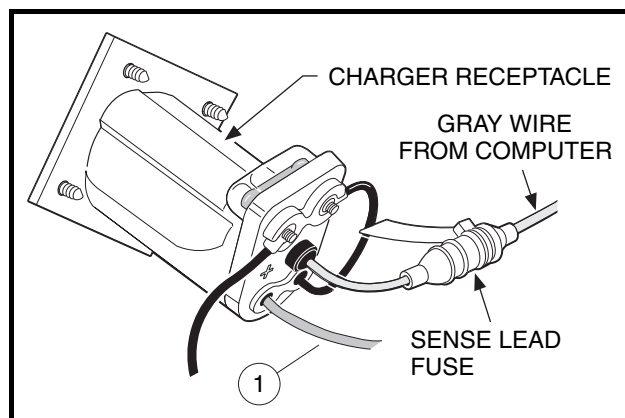
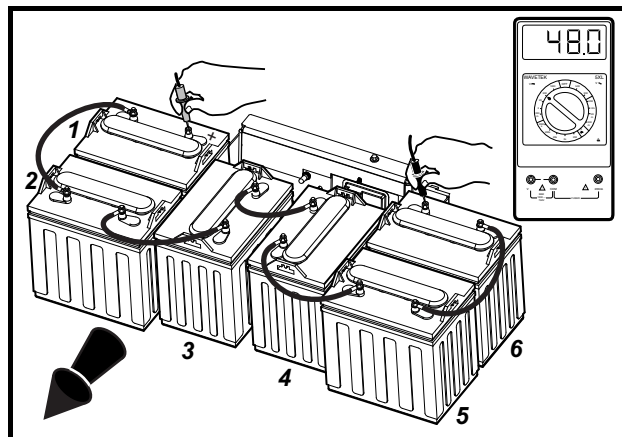

Figure 7-11 Receptacle Wire Connections (all vehicles except Precedent)
Figure 7-16 Battery Voltage Test – Precedent Style C Battery Configuration
- 3.2. Make sure the two nuts that secure the two 10-gauge black wires to the receptacle fuse assembly are tight (Figure 7-11, Page 7-16).
- 4.4. **Style C 6 x 8-Volt Precedent only:** With a multimeter set to 200 volts DC, measure the voltage of the battery pack between the positive (+) post of battery no. 1 and the negative (-) post of battery no. 6 (**Figure 7-16, Page 7-18**).
1. Check the batteries and the receptacle to ensure that they are wired in the correct polarity (**Figure 7-11, Page 7-16 through Figure 7-16, Page 7-18**). Also check the voltage and polarity at the receptacle.